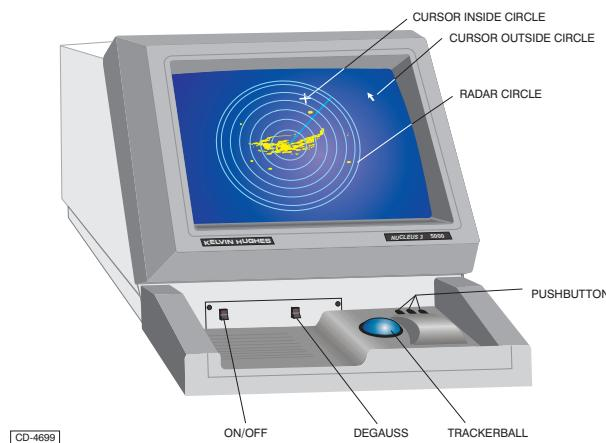

Figure 1a - 5000 Displays (Controls)
• Figure 1a - 5000 Displays (Controls)	1.1
- 9 The location of controls on the 5000 and 6000 series display types are shown in Figures 1a and 1b below.